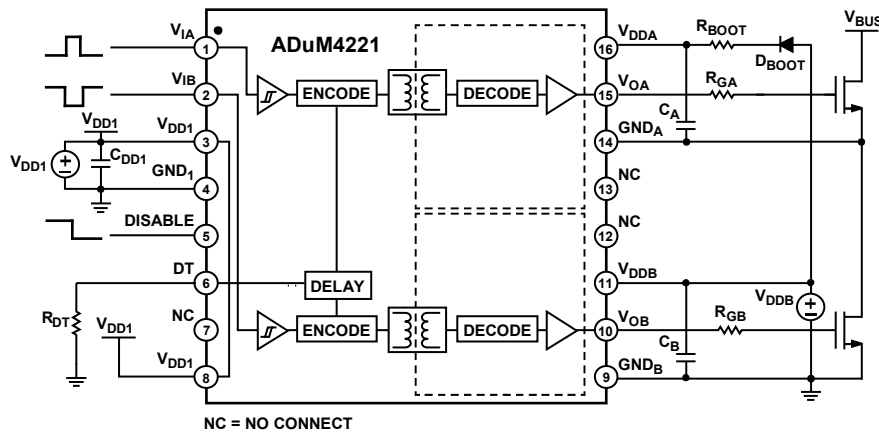

Figure 38. Bootstrapped, Half Bridge Operation Circuit for the ADuM4221
The ADuM4221/ADuM4221-1 include overlap protection such that the gate driver outputs ( $V_{OA}$  and  $V_{OB}$ ) cannot simultaneously go high even if both inputs are high. Additionally, the ADuM4221/ADuM4221-1 also have a dead time control pin (DT) that can adjust the delay between the output high-side and low-side transitions by using a single resistor between the DT pin and ground (see Figure 38). The relationship between the dead time resistor ( $R_{DT}$ ) and the obtained dead time is shown in Figure 35.
One method to reduce power supplies is to use a bootstrapped configuration for the high-side supply of the ADuM4221 (see Figure 38). A similar setup can also be obtained for the ADuM4221-1/ADuM4221-2. In this topology, the decoupling
Note that in Figure 38,  $D_{BOOT}$  is the bootstrapped diode,  $C_{DD1}$  is the decoupling capacitor on the input side, and  $C_B$  is the decoupling capacitor for the driver low-side supply.